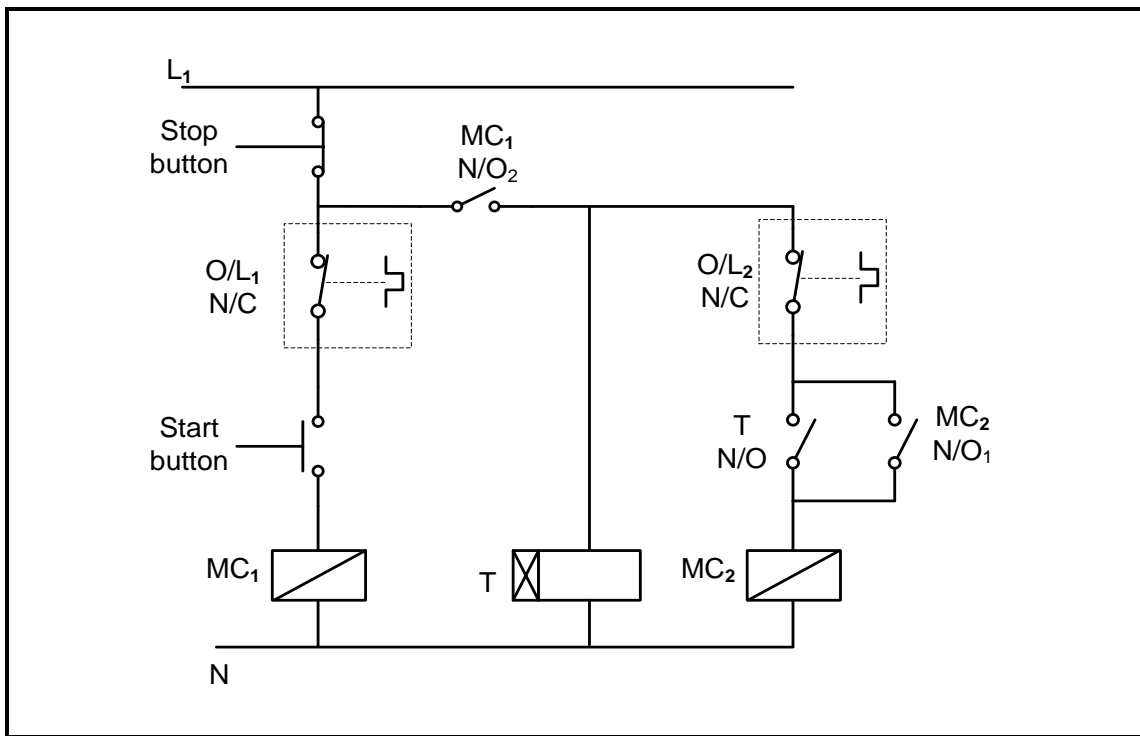

FIGURE 6.9: AUTOMATIC SEQUENCE STARTER CONTROL CIRCUIT
6.9 The circuit in FIGURE 6.9 below is used to control TWO three-phase motors. Answer the questions that follow.